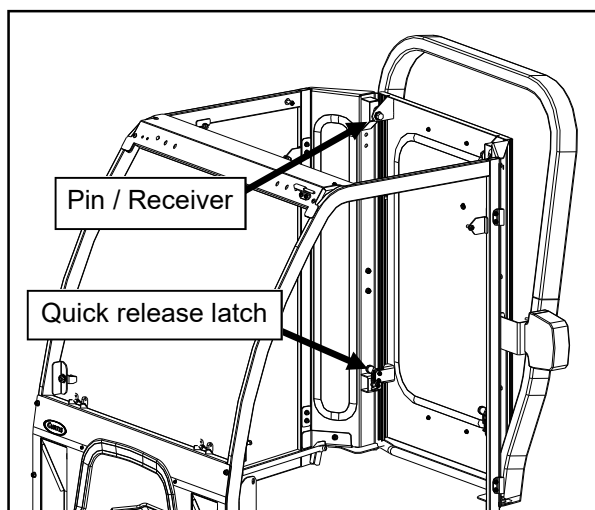

Fig. 10.1 (Rear Panel Installation)
10.1 Lift rear panel and insert the upper pins into the receivers on the rear legs. Engage the lower quick release latches at this time. See Fig. 10.1.